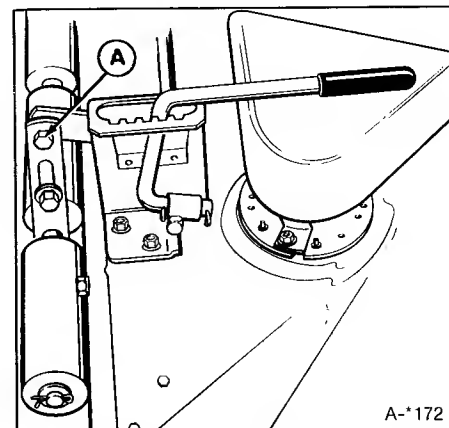

Figure 37. Shoulder Bolt
7. Loosen the shoulder bolt (A, figure 37) and raise or lower mower as necessary to level it. Retighten the shoulder bolt. Torque to 40 ft. lbs.